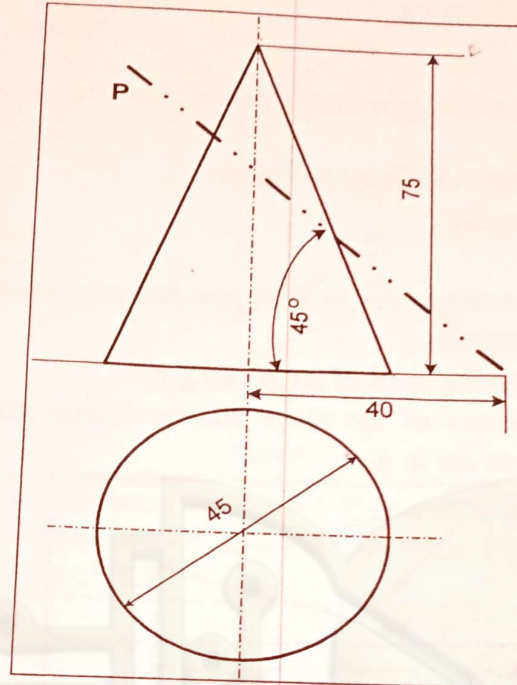

Figure 3
4. A right circular cone is cut by a plane P as shown in figure below. Find the true shape of the section and also construct the lateral surface development of the object. (figure 3) 18